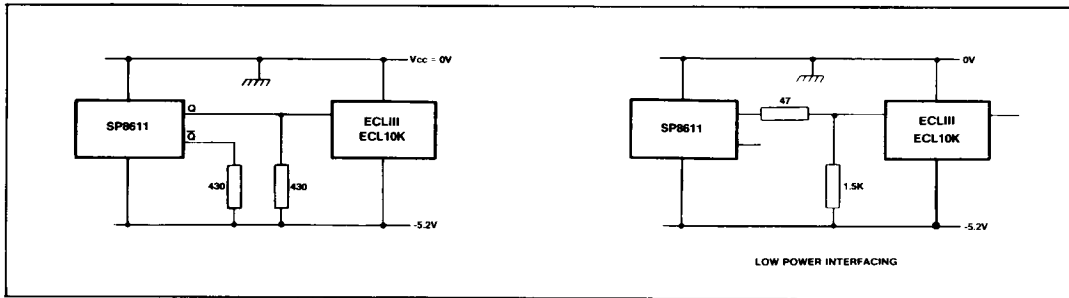

Fig.7 Interfacing SP8611 series to ECL 10K and ECL III
- The emitter follower outputs require external load resistors. These should not be less than 330 ohms, and a value of 430 ohms is recommended. Interfacing to ECL III/10K is shown in Fig. 7.